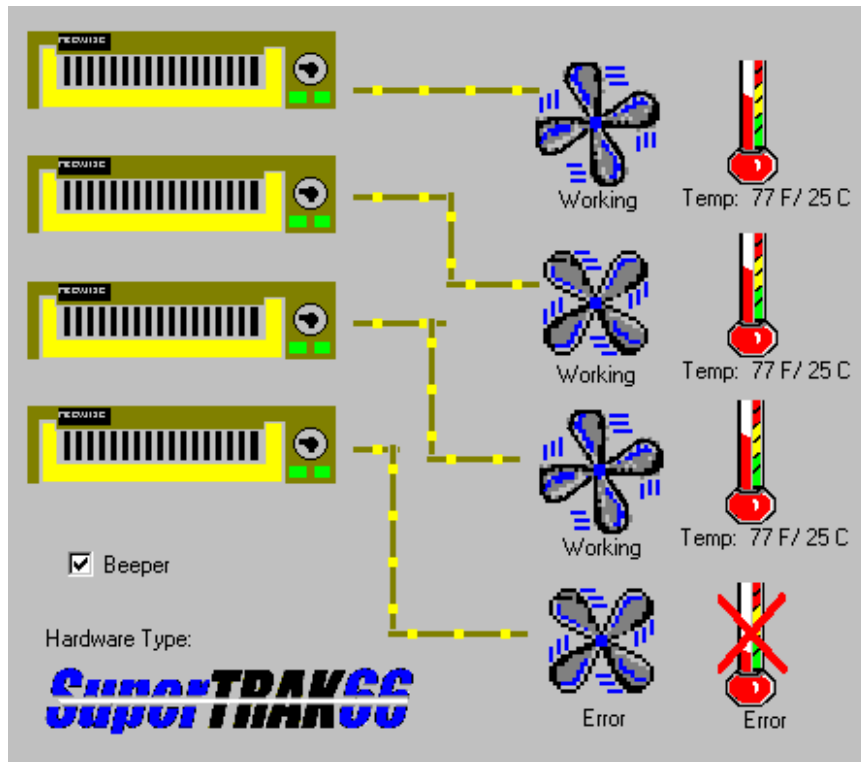

Figure 69: Enclosure Information View
- 2) In the Information View (see Figure 69), check or uncheck the Rebuild/synchronization Beeper box.